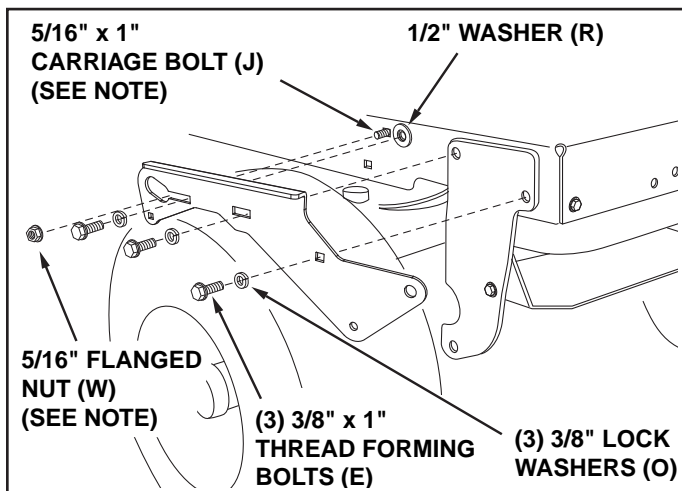

FIGURE 21 RIGHT SIDE VIEW
STEP 22: (SEE FIGURE 21)
- Fasten the R.H. Side Plate (bend facing out) to the front three holes shown in the tractor frame using three 3/8" x 1" thread forming bolts (E), three 3/8" lock washers (O) and one 1/2" washer (R) placed on the third bolt as a shim between the side plate and the frame. Tighten all bolts. Repeat for the L.H. side.